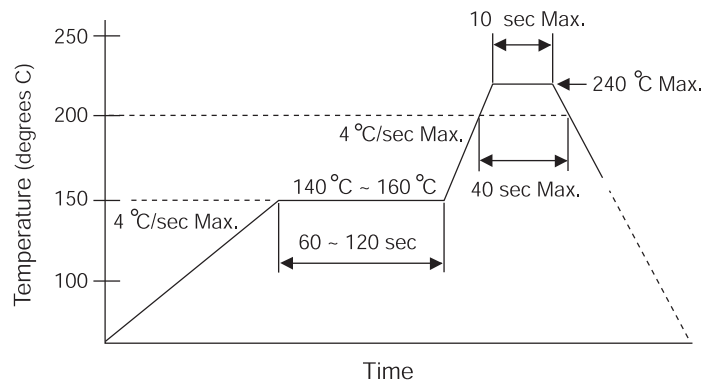

Figure 8. Temperature Profile at the Top Surface of ZHX1820
- The temperature profile at the top surface of ZHX1820, shown in Figure 8, is recommended.